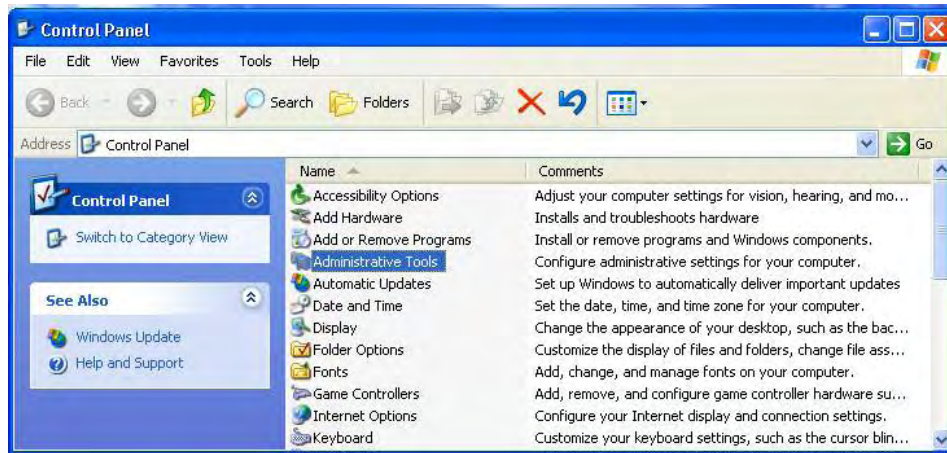

Figure 1-48. Control Panel Administrative Tools
2. Double-click on **Administrative Tools** (Figure 1-48).